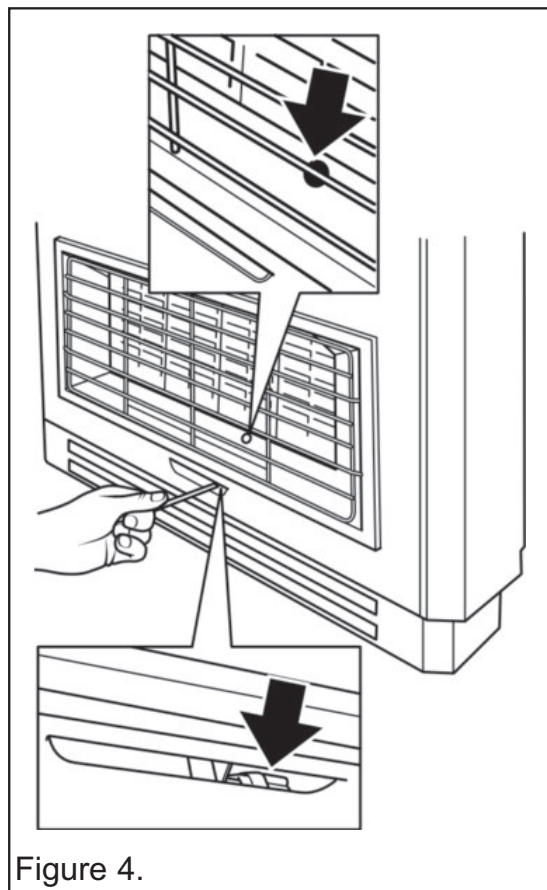

Figure 4.
– Depress the control knob slightly and turn anticlockwise towards the 1/IGN position. Do not apply too much pressure as this will cause resistance to be felt. Depress the control knob. Sparks should be generated at the pilot. The sparks should ignite the pilot. If the pilot does not light, turn the control knob back to the 'OFF' position and try again. The pilot flame can be seen through the opening immediately below the right hand centre radiant (See upper section of figure 4).
While keeping the knob depressed, light the pilot by inserting a long match or taper into the opening shown in figure 4 (Second opening from the right).